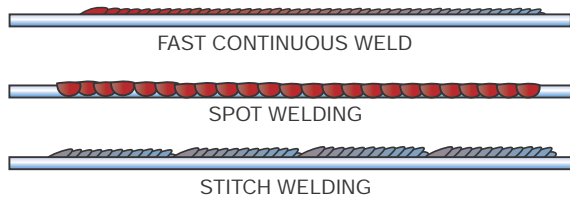

FIGURE 11-2 Ways of controlling distortion.
- Low distortion—The faster welding speeds and low currents reduce heat damage to adjacent areas that can cause strength loss and warping. Because there is no flux to remove between weld beads, other techniques, such as producing a series of spot welds or stitch welds, can be used to control distortion, Figure 11-2.